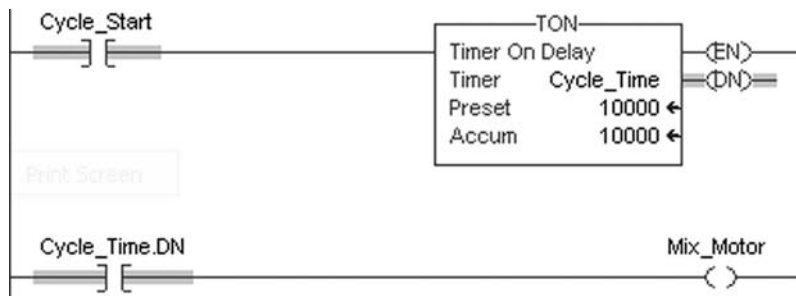

Figure 4-4 Use of a timer DN bit in ControlLogix.
Consider Figure 4-4. The timer is named `Cycle_Time`. The PRE value is 10000 ms. The timer enable (EN) bit becomes true when the rung conditions are true. The EN bit stays set until the rung goes false or a reset instruction resets the timer. The EN bit indicates that the timer is enabled. The EN bit can be used for logic. For example, `Cycle_Time.EN` could be used as a contact in a rung.